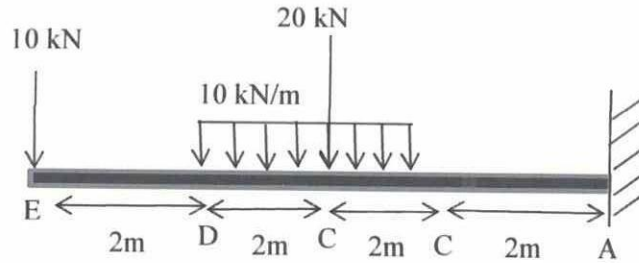

Figure 2 (a)
- Q2 (a) Draw a shear force diagram and bending moment diagram for a simple supported beam as shown in Figure 2 (a).
- (ii) Draw the Shear Force Diagram (SFD) and Bending Moment Diagram (BMD) of the beam as in Figure 2 (a). (16 marks)